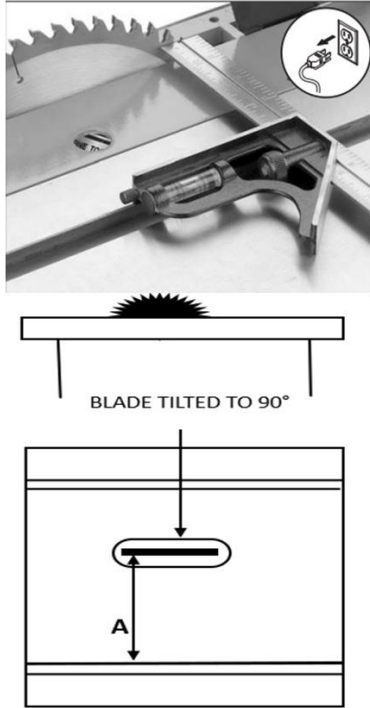

Figure 50: Miter slot parallelism adjustment.
- 2 - Loosen the knurled nut see figure 50.